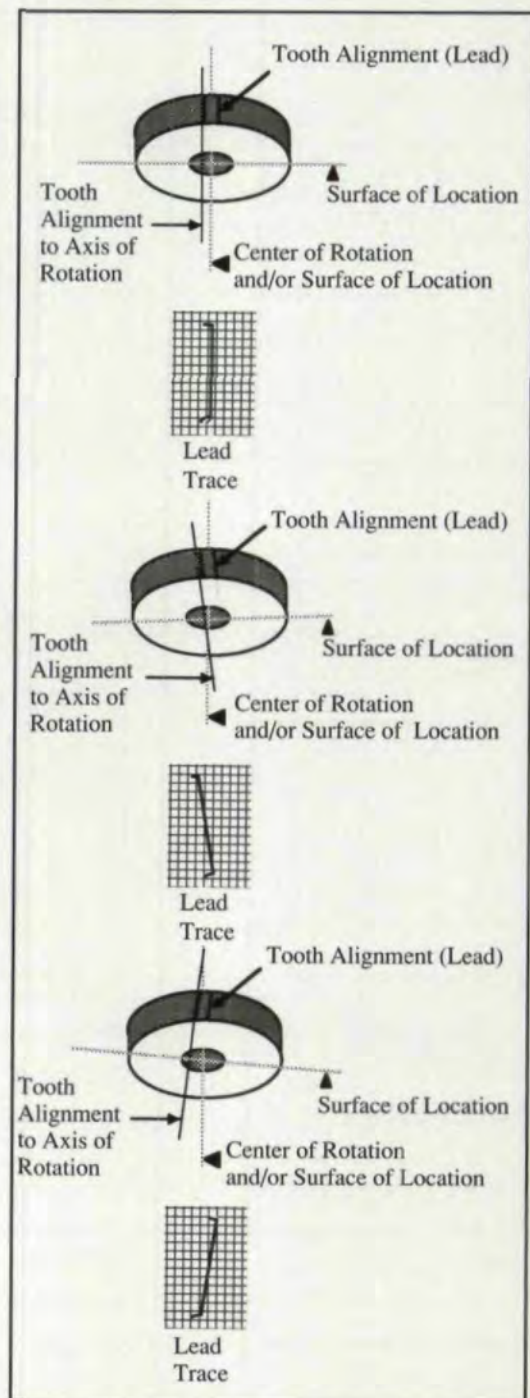

Fig. 5 - The effect of axial face runout on lead variation on a clamped workpiece.
4) Little axial face runout error means less lead, involute, and radial runout error. Fig. 5 illustrates the effect of face wobble in determining lead variation.